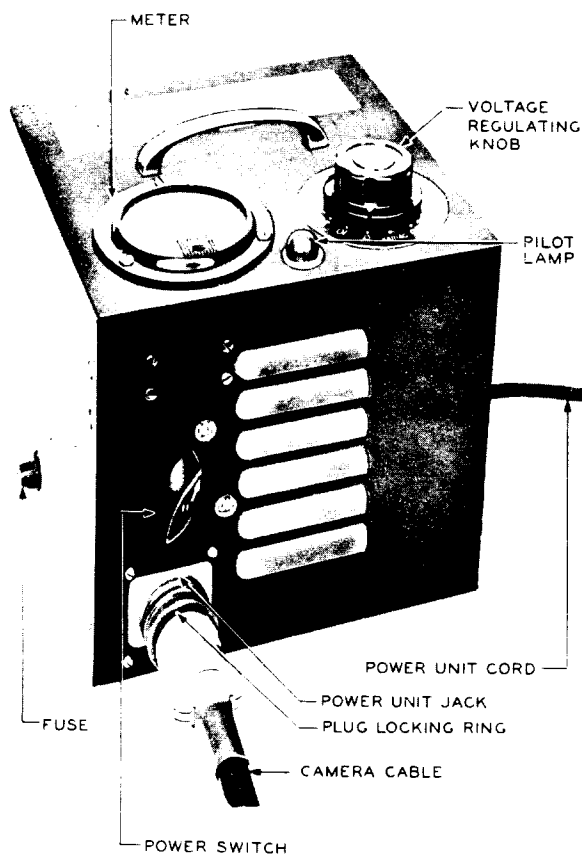

Fig. 3 - Power Unit
1.09 The KS-14594 power unit shown in Fig. 3 is provided to supply a momentary high dc voltage (approximately 450 volts) to operate the flash lamps in the camera hood. In order to insure reliable electrical connections, the camera cable (approximately 30 feet long) is connected to the power unit by a locking-type connector.
4.04 Camera and Power Unit Connections: Referring to Fig. 3, make sure that the switch on the power unit is in the OFF position and that the voltage regulating knob is set to ZERO. Insert the plug on the camera cable into the jack on the power unit and manually tighten the plug locking ring. Insert the plug on the power unit cord into the proper 115-volt ac receptacle. After making these connections, turn the power unit switch to its ON position and check that the pilot lamp on the power unit lights. Set the volt-